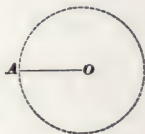

FIG. 40.
**69.** The **radius** of a circle,  $AO$  (Fig. 40), is a straight line drawn from the center  $O$  to the circumference. It is equal in length